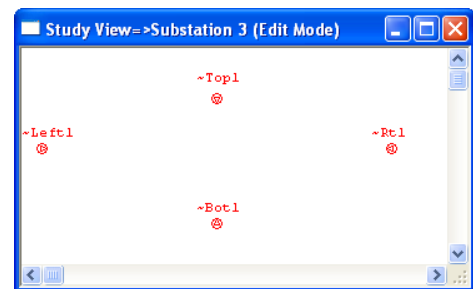

Fig. 8
- Double-click on “Substation 3” composite network. The “Study View=>Substation 3 (Edit Mode)” window (one-line diagram presentation) will open. Note that you will see 4 internal pins inside the window. These pins are the counterpart of the external pins that you see on the composite network symbol. See Fig. 8